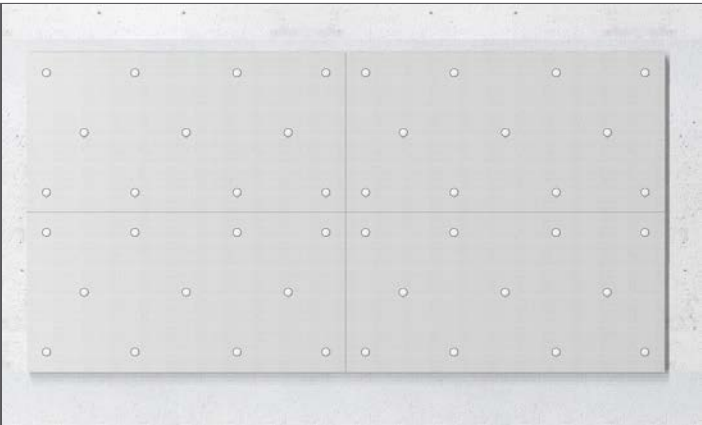

Figure 1.2. Board Joints Aligned. Fastener Pattern (11 Fixings per Board).
The boards should not be exposed to high temperatures, moisture, or UV light during service. Board joints could be squared or staggered as shown in Figures 1.2 & 1.3 for architectural requirements. Fixing into flat soffits or bases are desirable. The boards should not be pressed hardly against each other during installation.
- B. Use two rows of 4 fasteners along the length, between 50 to 150mm from edge of the board; and 3 fasteners along the middle in an offset position from the exterior rows of fasteners as shown in figure 1.2. Repeat steps to install the board in a continuous layer on the underside of the concrete soffit.